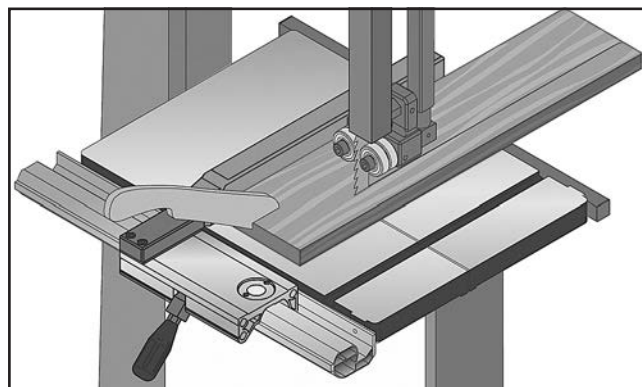

Figure 78. Example of a ripping operation.
3. After all safety precautions have been met, turn bandsaw **ON** and wait for it to come to full speed. Slowly feed workpiece into blade until blade is completely through workpiece. **Figure 78** shows an example of a ripping operation.